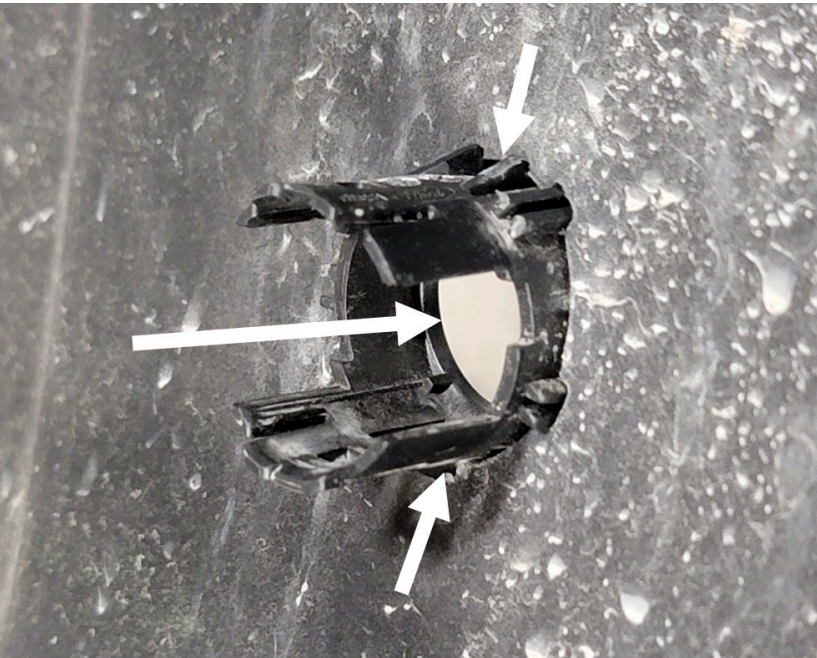

Figure 11
12. Remove the outside parking sensor housings by carefully compressing the clips on either side of the housing and pushing the housing out of the bumper shell. Figure 11.